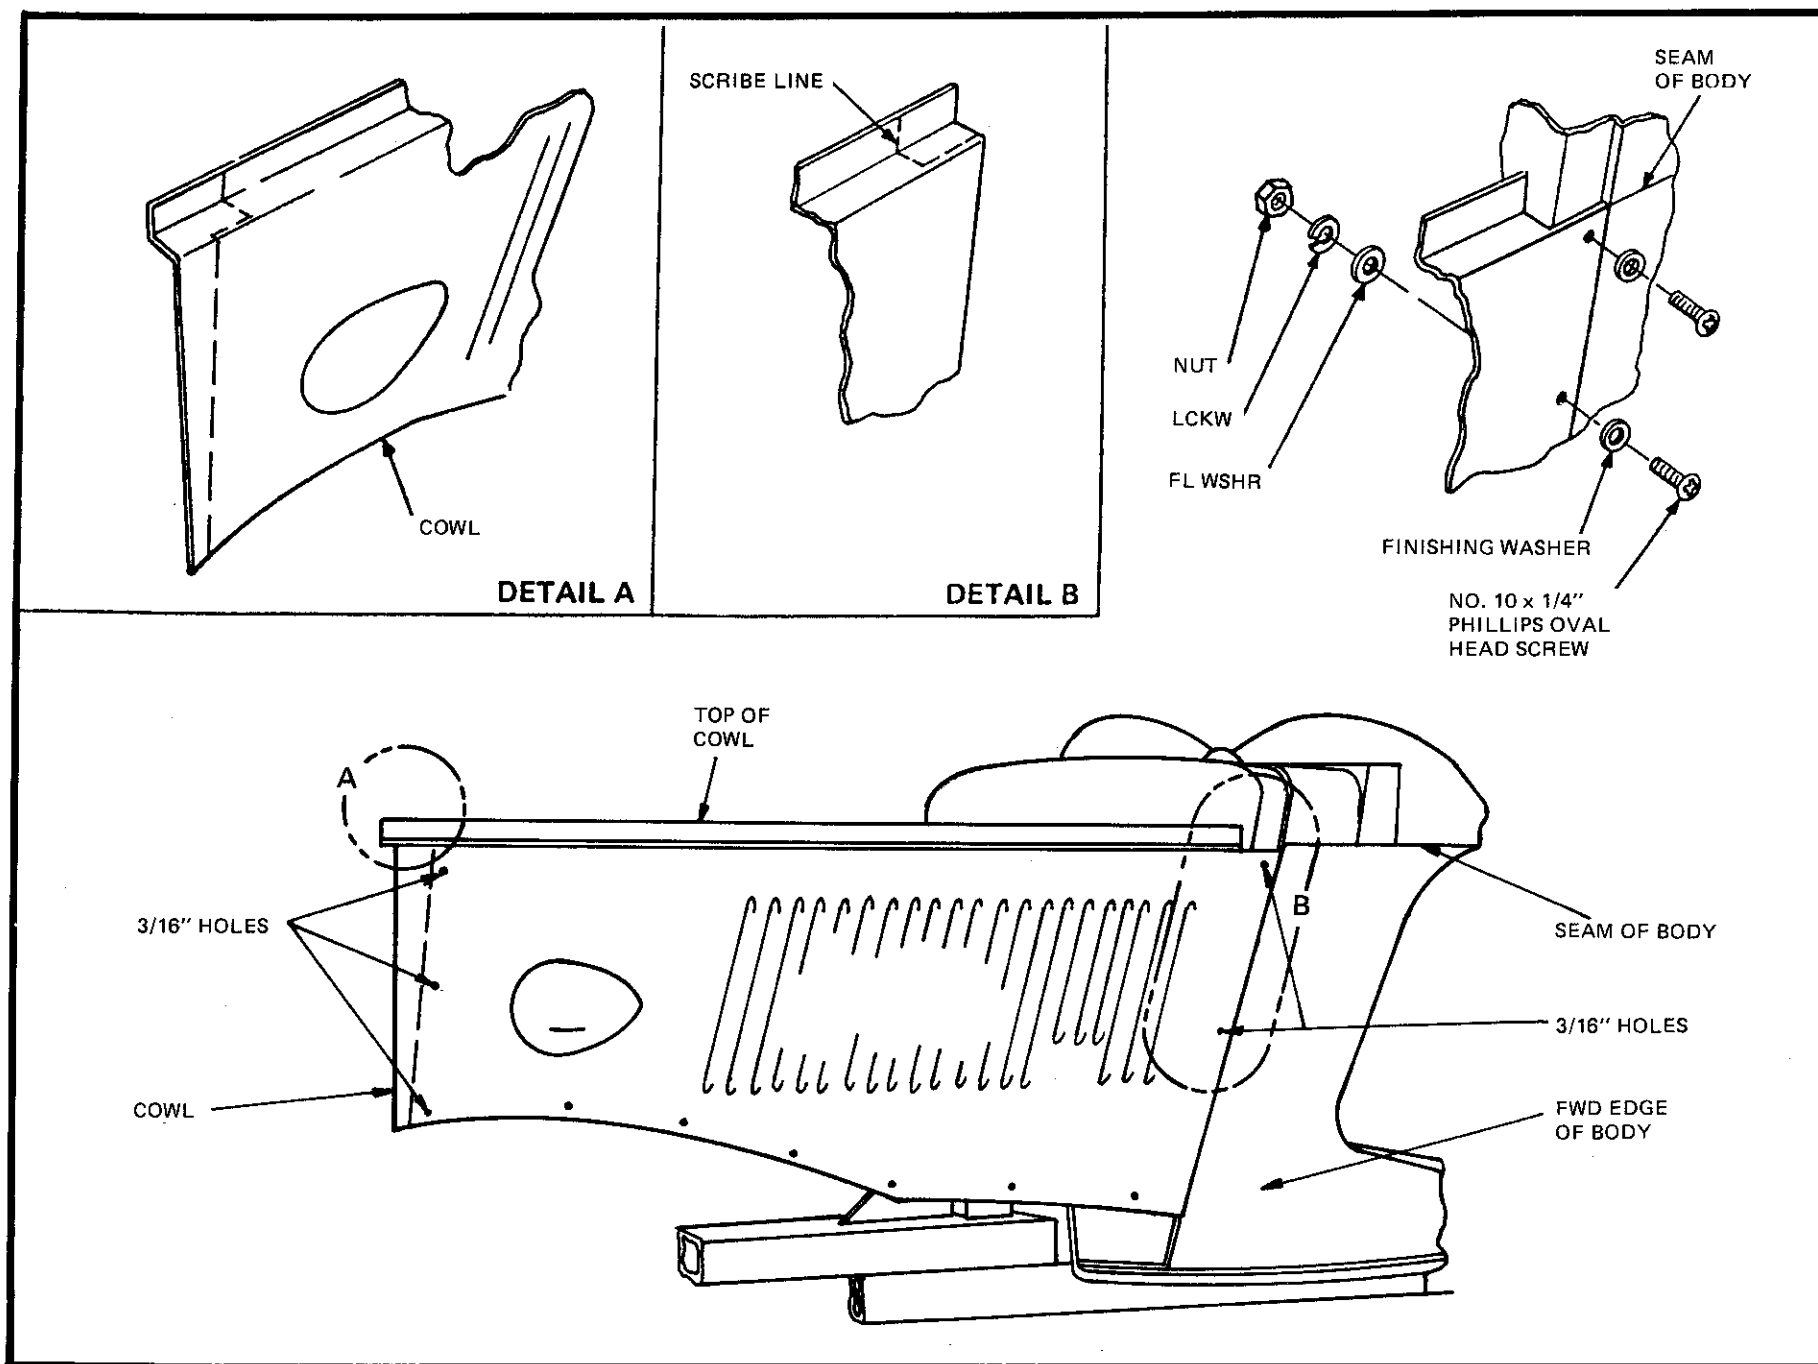

Figure 39
- ☐ Trim and drill cowls as per Figure 39. Carefully align cowls with body, matching rear of cowls with forward edge of body. Adjust height of cowls until top edge of cowl aligns with mold seam on body.
- ☐ Leave all other bolts out at this time. (Figure 39)